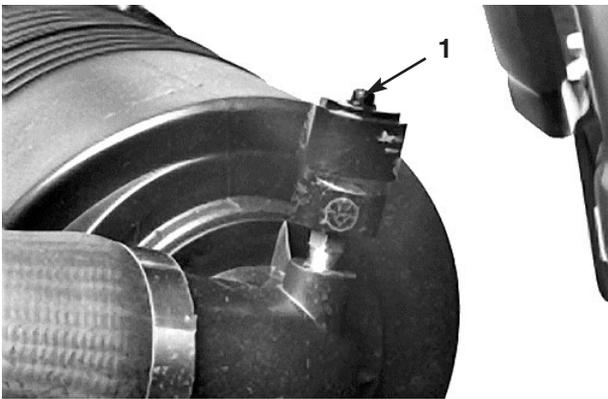

Figure 38
2. Service the air cleaner filters whenever air cleaner indicator (Fig. 38) shows red or every 400 hours (more frequently in extreme dusty or dirty conditions). Do not over-service the air filter.
8. Reset the indicator (Fig. 38) if it is still showing red.